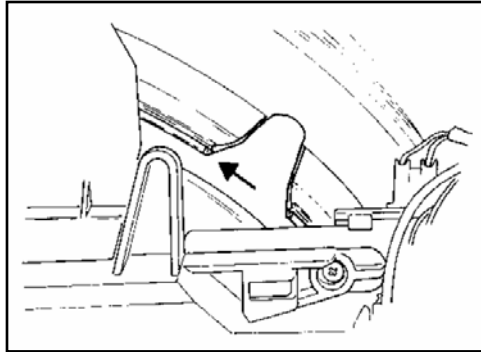

Figure 5-26: Rolled Drum Edge
5. If the drum type is as shown in Figure 5-26 – Rolled Drum Edge (see arrow), do not loosen the bearing.